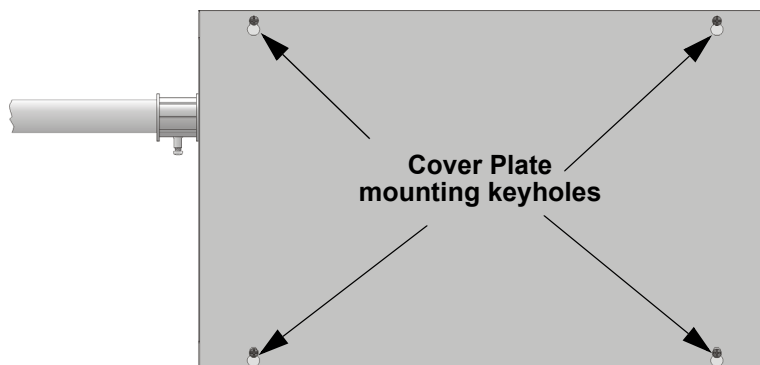

Figure 4.8 Cover Plate Mounting Keyholes and Cover Mounting Screws Alignment
6. Align the cover plate mounting keyhole over the cover mounting screws. See Figure 4.8.
7. Slide the cover into place and tighten the cover mounting screws. See Figure 4.8.